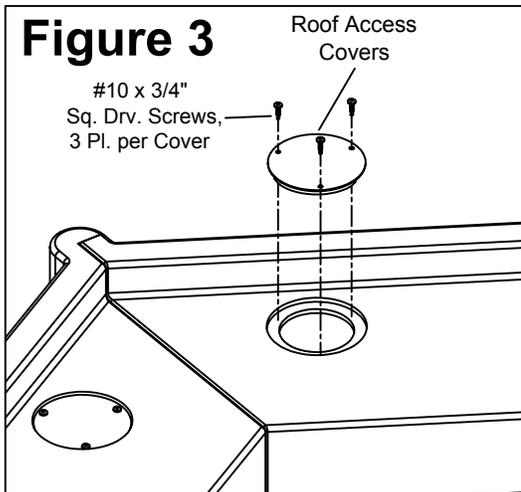

Figure 4
Attach (4) Roof Hole Plugs as shown in Figure 4.